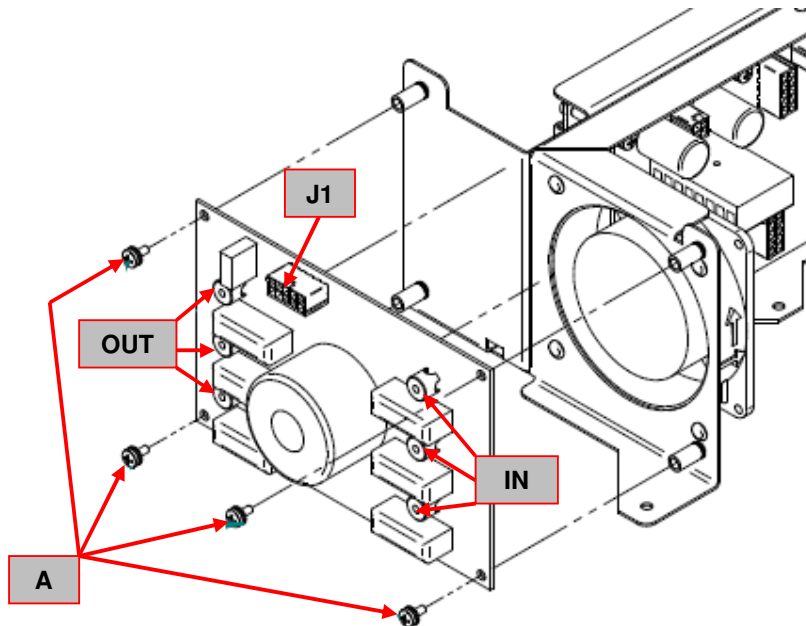

Figure 23
3. Locate the EMC board W05X1471. See **Figure 23**
4. Disconnect the connectors **J1**. See **Figure 23**
5. Using a short screwdriver PH02 remove the 3 input cables "IN" and the 3 Output cables "OUT" from the EMC board. See **Figure 23**
6. Using a short screwdriver PH02 remove the 4 screws (**A**) that fix the EMC board to the machine frame. See **Figure 23**.